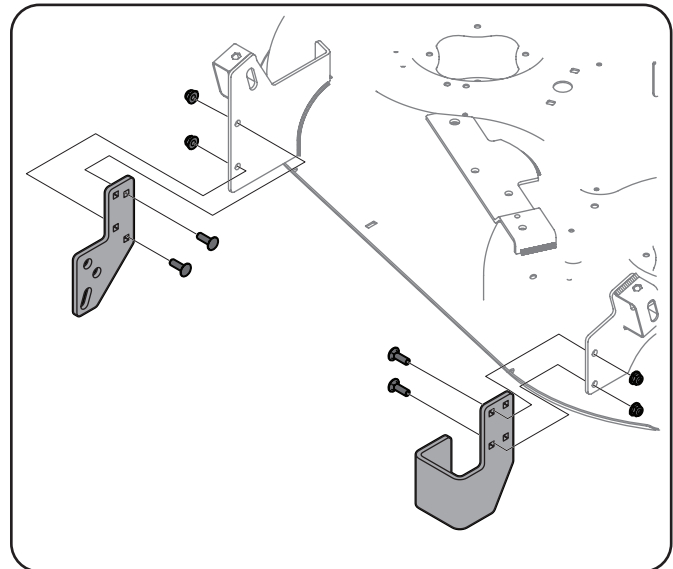

Figure 1-6
2. Install the Left and Right Roller Brackets (#6 & #7) to the locations shown in Figure 1-6 on the Tractors deck with two Carriage Bolts (#1) and two $\frac{5}{16}$ Lock Nuts (#3) per side.